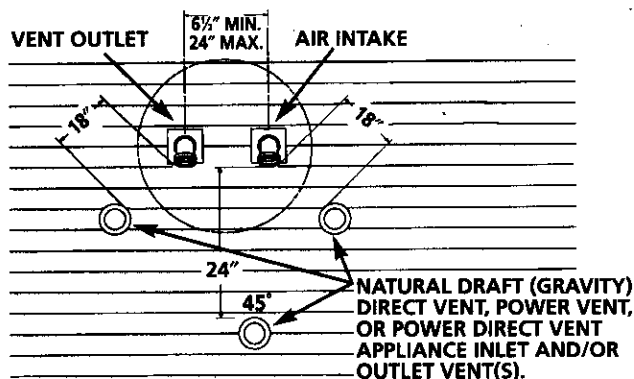

Figure 4
- 18" minimum from other natural draft (gravity) direct vent, power vent or power direct vent appliance inlet and/or outlet vent(s) when directly above or 135° to either side of center line. Figure 4, page 12.
- 24" minimum from any appliance inlet and/or outlet vents when directly below or 45° to either side of center line. Figure 4, page 12.